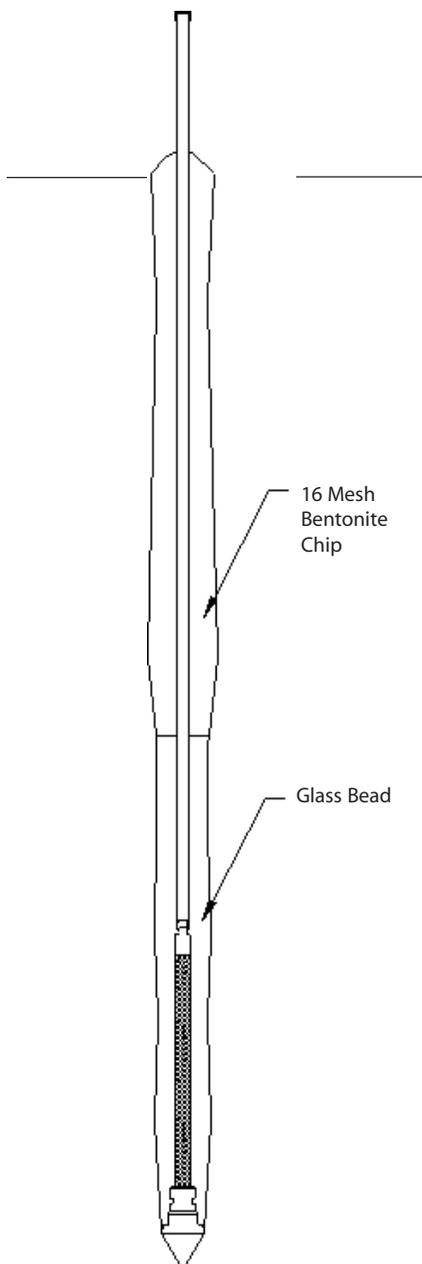

Figure 4. After the implant has been secured, the rods are removed and the annulus backfilled as appropriate.
9. Pull the remaining rods out of the hole as in Step 5. Backfilling with sackcrete (cement/sand) or bentonite/sand may be done while removing the rods (**Figure 4**). If the PR-14 Implant Anchor is used, the tubing may be cut flush with the top probe rod and a regular pull cap may be used to remove the remaining probe rods after Step 8.